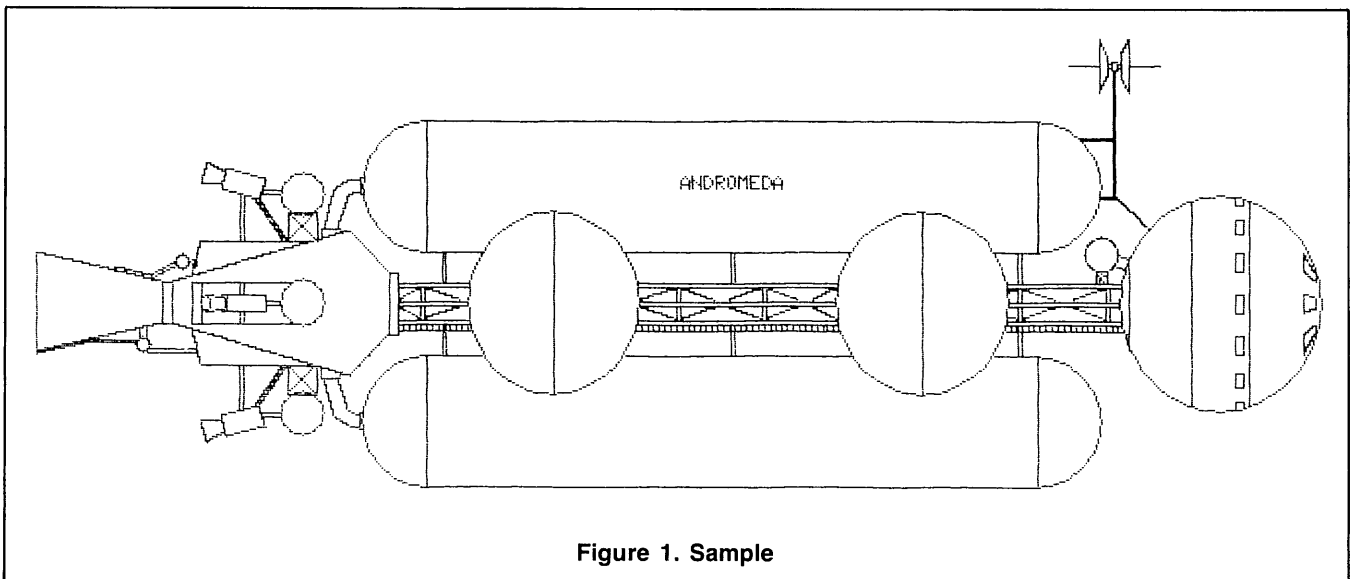

Figure 1. Sample
There is a use for that extra bank of 32K; you can increase your resolution to 768 by 384! This program lets you look at one-sixth of this big picture at a time, but you can use all of Basic's graphics commands on each screen. Additional commands are HLINE, HSET, and HPOINT (equivalent to LINE, PSET, and PPOINT, but using the entire picture coordinates). An INVERT command inverts each pixel on all six screens; to view the whole picture, PRINT prints all six screens together on a DMP-100 or equivalent printer (see Fig. 1). You can use PMODE 3 or 4; PMODE 3 gives you 384 x 384 resolution in four colors, though the colors show up only as shades of gray on the printer.
The print routine is set up for a DMP-100 printer at 1200 baud. Protocol for this printer is: CHR\$(18) sets the graphics mode. CHR\$(30) returns it to character mode. In each byte sent, the least significant bit is the top dot and the most significant bit is set to 1. If your printer does not use these commands, you will have to write your own print routine. Fig. 1 is a sample of what this program can do. The Basic program given will run on a cassette system. To use a disk system, type in the changes in Listing 2.